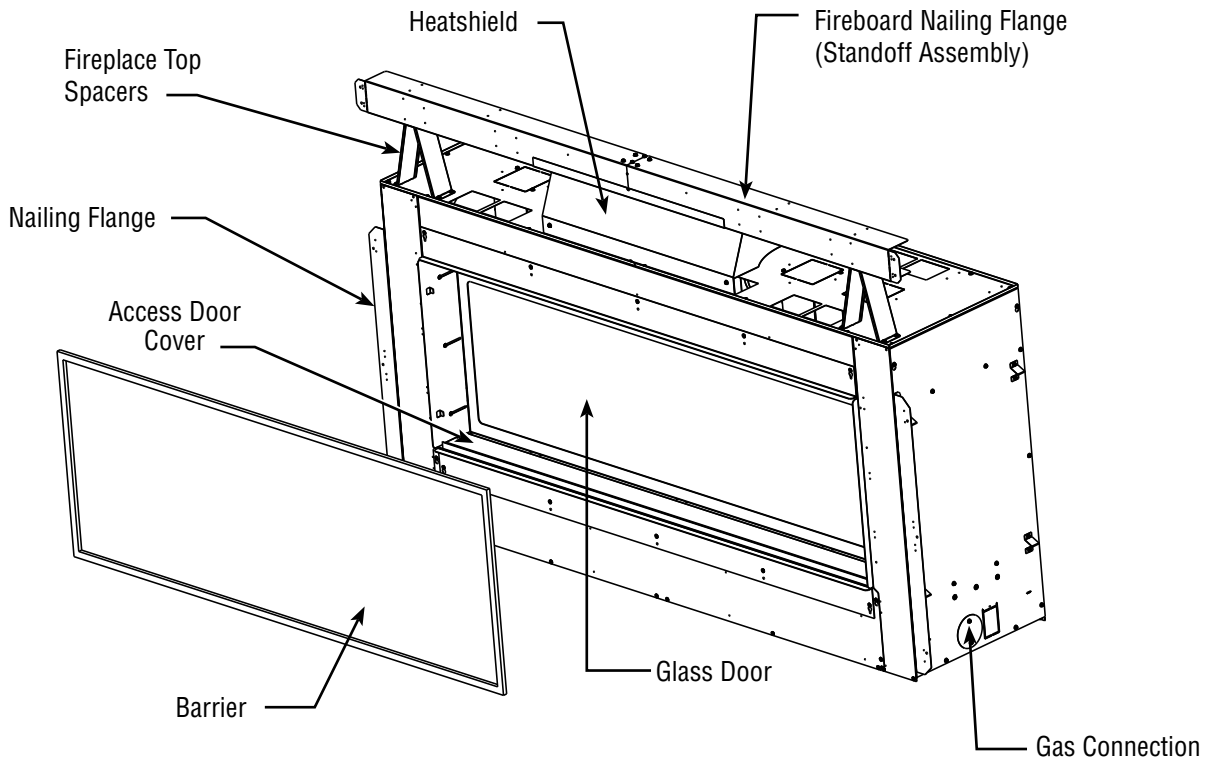

Figure 1 - Component Overview
- 60" Models - Three (3), 5 lb. bags
- 72" Models - Four (4), 5 lb. bags
- 84" Models - Five (5), 5 lb. bags
- Four (4), AA Batteries
- One (1), Fireboard Top
- One (1), Fireboard Bottom
- Two (2), Fireboard Sides
- One (1) Standoff Assembly (*see Figure 1*)
- One (1) Heat Shield (*see Figure 1*)
- Twelve (12) #10 Hex Head Screws